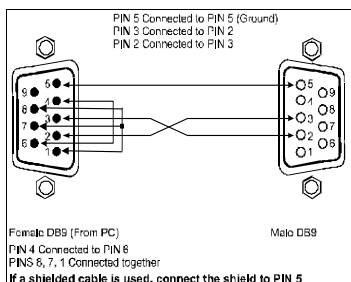

Figure 2: Connecting a PC without using a Null-modem Adapter
- Connect the RS-232 DB9 port on your PC to the RS-232 DB9 rear panel port on the **FC-4001** unit, as Figure 2 illustrates